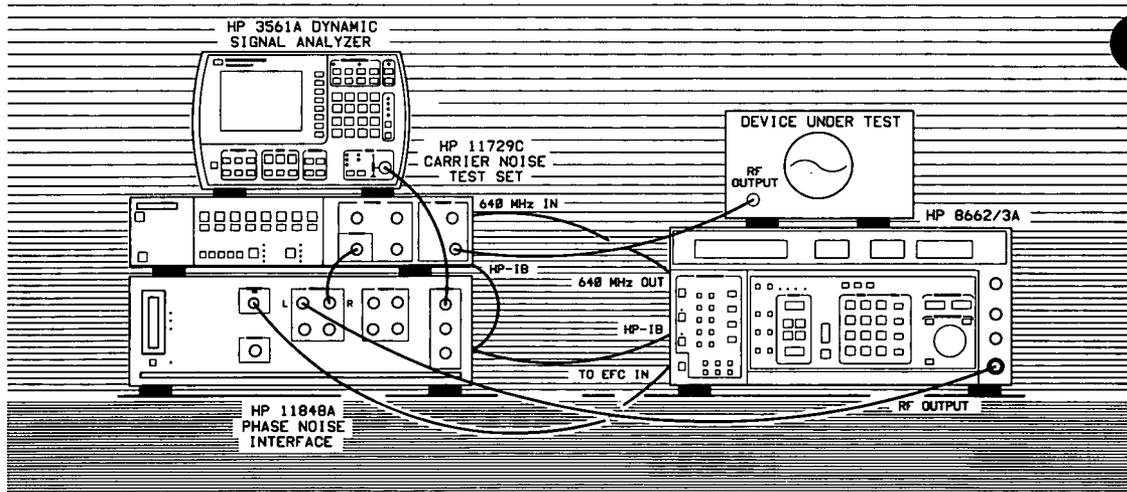

Figure 3-19. Setup Diagram for Microwave Source Measurement Example.
3. **When the Connect Diagram appears on the HP 3048A's display, connect the signal paths as shown on the display.** (Figure 3-19 also shows the cable connections for this measurement.) Table 3-13 provides setup considerations that will help you ensure that your measurement results are valid.